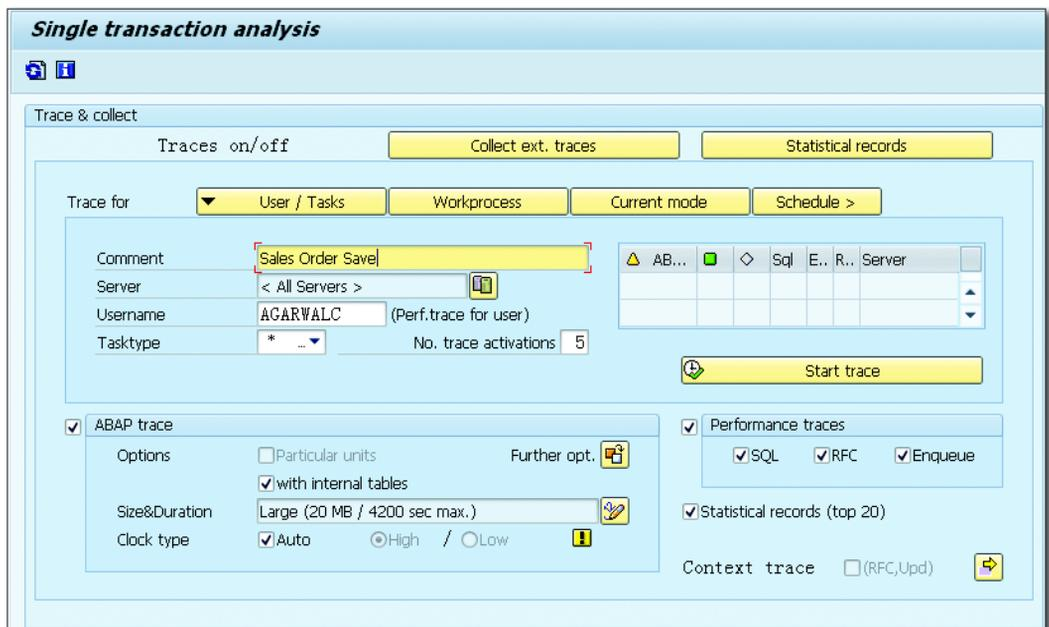

Figure 14.1 Single Transaction Analysis (1)
Figure 14.1 shows an example of executing traces for a sales order and analyzing the performance issue to determine why it's taking a long time to save the order. Proceed with the following steps:
1. Log in to the SAP CRM GUI, and access Transaction ST12. Enter "Sales Order Save" in the COMMENT field. Select the SERVER as ALL SERVERS (you can also select the specific application server if you know the application server you're going to use to log in and save the order), and the TASKTYPE as *. The default settings can be kept the same, as shown in Figure 14.1.